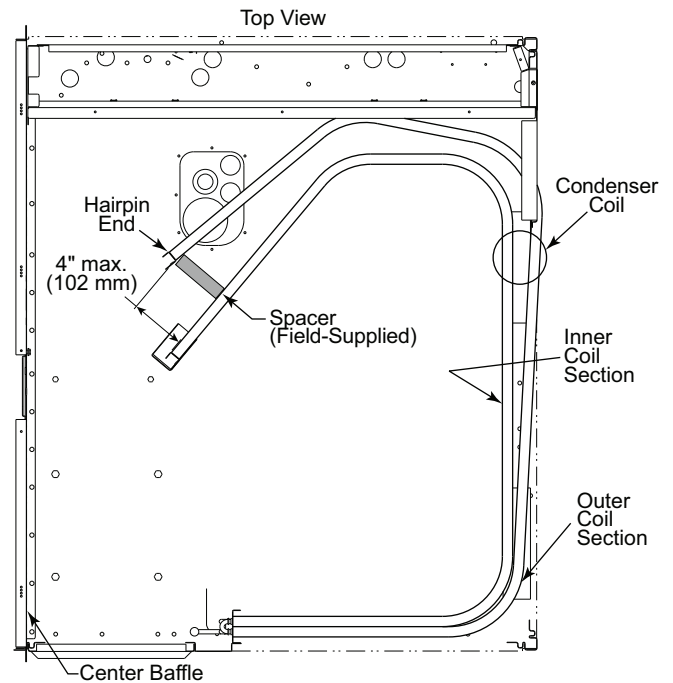

Fig. 21 – Separating Coil Sections
8. Insert a spacer (field-supplied) between the tube sheets to hold the coils apart. See Fig. 21.